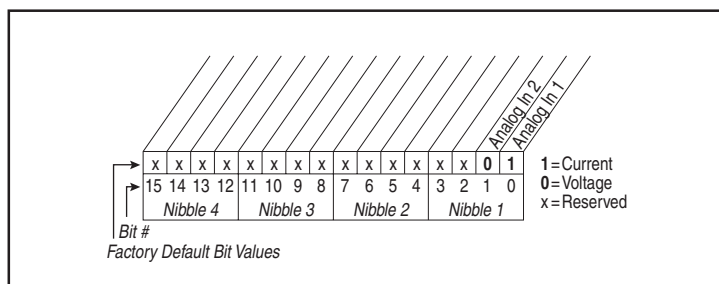

Figure 11.35 – Anlg In Config (320)
**Range:** See figure 11.35
**Default:** See figure 11.35